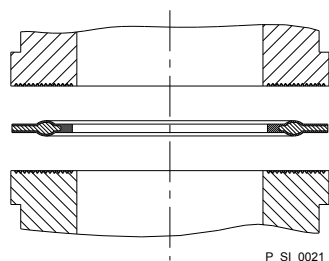

Fig. 14: Moulded composite seals with corrugated insert
- The pump is supplied with PTFE moulded composite seals with a flare, which are used for the pump connections. They seal the connections between grooved pump valves and the grooved inserts from ProMinent - see Fig. 14.